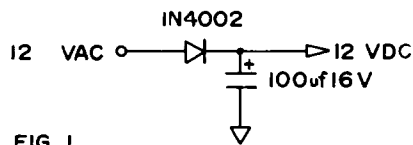

FIG. 1
resistor (in Kohms) use the following formula: $R = (V - 22) / 8$. A two watt resistor should be sufficient for voltages up to 200VDC. Refer to figures 1, 2, 3 for additional information. If polarity is reversed to the unit, it will not operate but will not be damaged. Use the following as a guide for obtaining proper operating voltage in different environments:
- Bases—use appropriate figure 1, 2, 3.